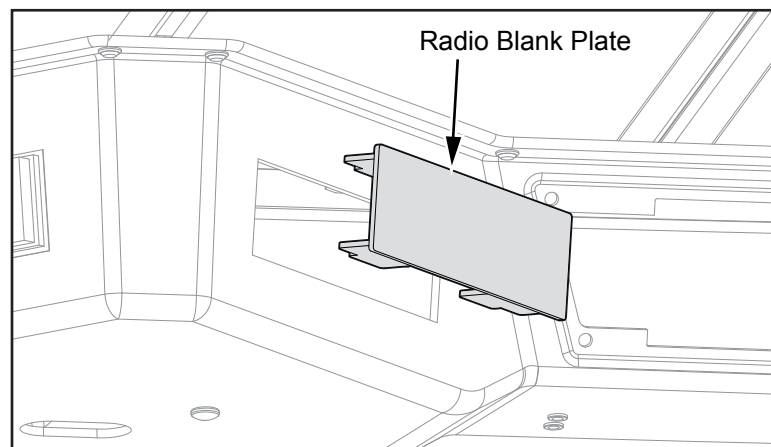

Figure 2
4. Remove the radio blank plate from the overhead console and set aside for reinstallation (See *Figure 2*).